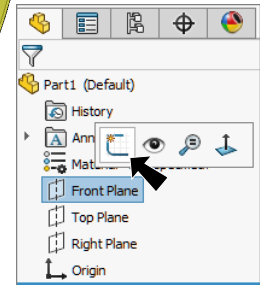

Fig. 1
Step 2. Click **Front Plane**  in the Feature Manager and click **Sketch**  on the context toolbar, **Fig. 1**.